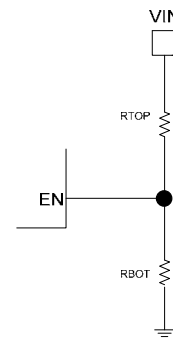

Figure 1. EN Divider Network
- 3) AP6508 can be enabled by Vin through a voltage divider as shown in the figure 1 below.